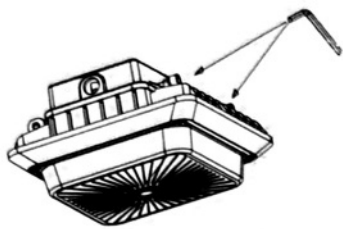

Figure 3-1
1. Disassemble the driver box cover by loosen the two screws on the driver box; Figure 3-1